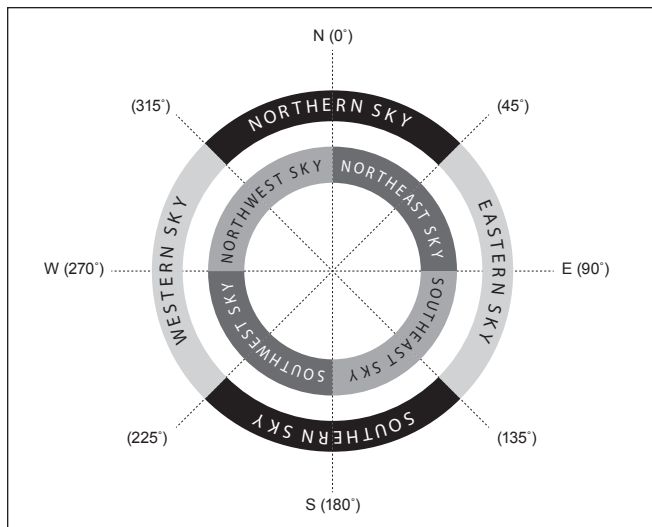

Figure 2. Directional regions of the sky used in the “Brightest Star” alignment method.
2. The hand controller will prompt you to “Select Region.” Referring to **Figure 2**, choose the region that corresponds with where you see the brightest star in the sky. It may be helpful to have a compass for reference during this process. There are eight overlapping regions to choose from, each covers a 90-degree span in azimuth. The direction you choose will only affect your alignment star selection; you will